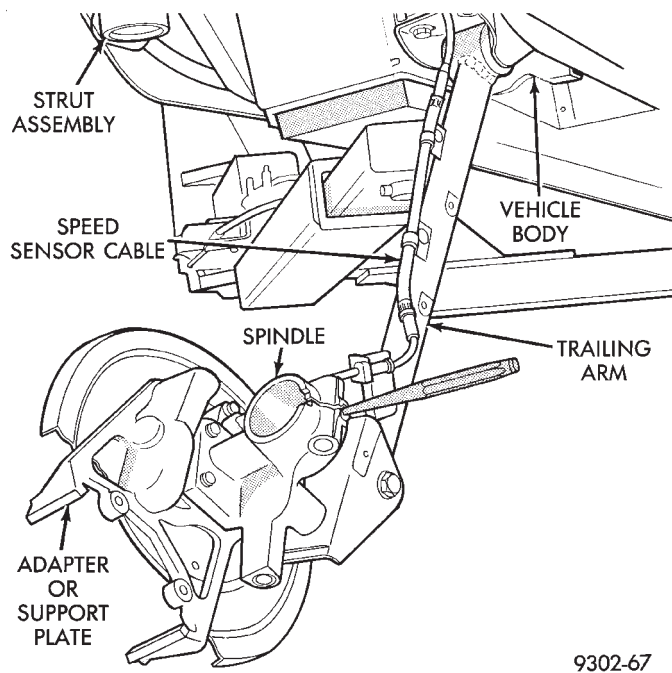

Fig. 13 Spindle Assembly Removed From Strut
(11) Let the rear spindle and assembled components hang from trailing arm (Fig. 13) while strut assembly is out of the vehicle.